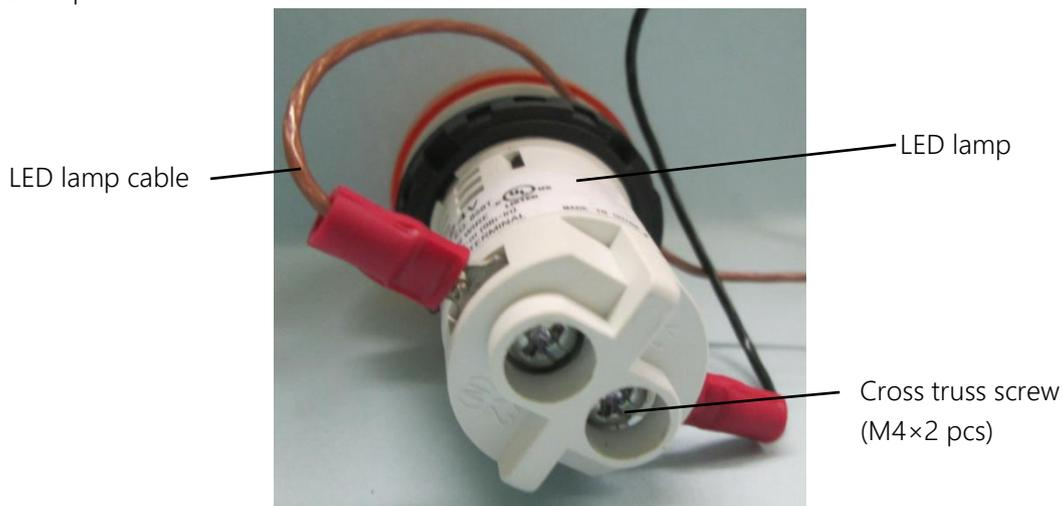

Fig. 7.59 Removing the LED Lamp Cable
- 2) Loosen the cross truss screws (M4×2 pieces) on the bottom of the LED lamp, insert the Y-type terminal of the LED lamp cable, and tighten the cross truss screws (M4×2 pieces) to secure the LED lamp cable. (See Fig. 7.59. Any secured combination is acceptable.)